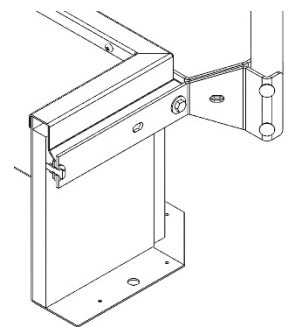

Figure 3
2. The railing brackets are designed for mounting on the counterflash of the roof hatch, figure 3. Do not mount brackets through the roof hatch curb or through roofing material.
4. Mark the mounting holes on each corner and drill 1/2" diameter holes. Remove 3/8"-16 nut and bolt (20, 30) from the bracket halves (10).
5. Fasten to the corner on counterflashing using 3/8"-16 x 3/4" bolts (30), washers (40), and threaded nut plate (50), which is placed behind the counterflash for quick, easy installation.
- b. Align and hold the threaded nut plate (50) behind the counterflash.
- c. Screw the 3/8"-16 x 3/4" bolts (30) and washers (40) through the bracket and into the threaded nut plate.